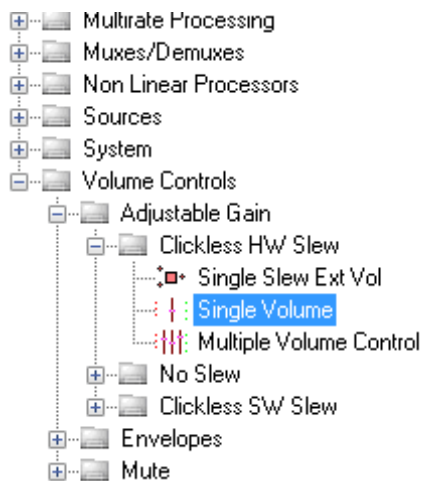

Figure 25. Adding a **Single Volume** Component
- Add a **Single1** block (volume control) by clicking the **Single Volume** component from the **Volume Controls** > **Adjustable Gain** > **Clickless HW Slew** folder (see Figure 25), and then dragging it to the project space.